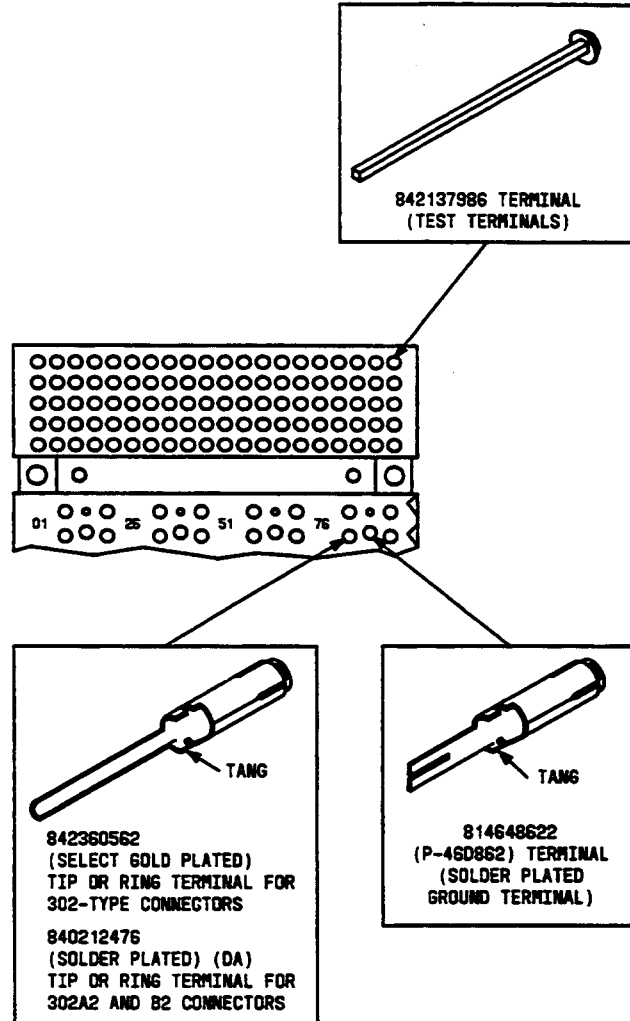

Figure 10—302-Type Connector—Replacement Terminals
4.06 Figure 10 illustrates the 302-type connectors and the relationship of piece parts.